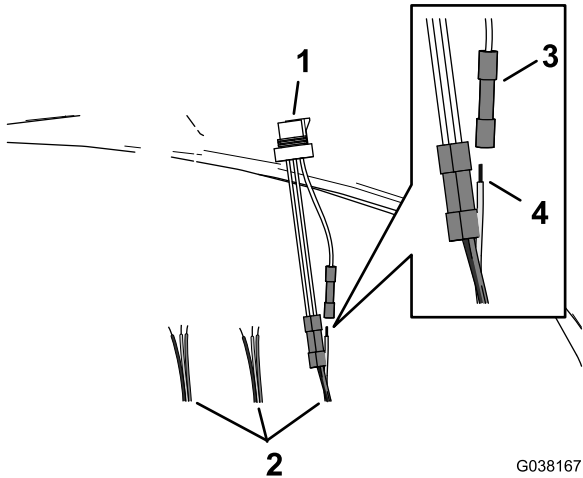

Figure 34
2. Insert the wire of the DIN wire harness into the butt-splice connector of the 3-pin adapter (Figure 34).